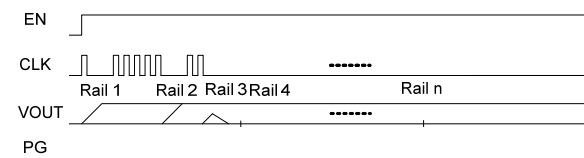
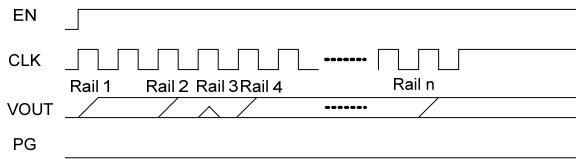

Figure 7: Soft start with CLK pausing during PMIC error
Figure 8: Soft start without CLK pausing during PMIC error
2. If the "CLK_ON_Error_Pause_EN" bit is "1", the master/slave PMIC pulls the CLK pin down if any error occurs during the soft start of any power rails, as shown in Figure 7. Otherwise if the "CLK_ON_Error_Pause_EN" bit is "0", the master/slave PMIC does not pull the CLK pin even if any error occurs during the soft start of any power rails, as shown in Figure 8.